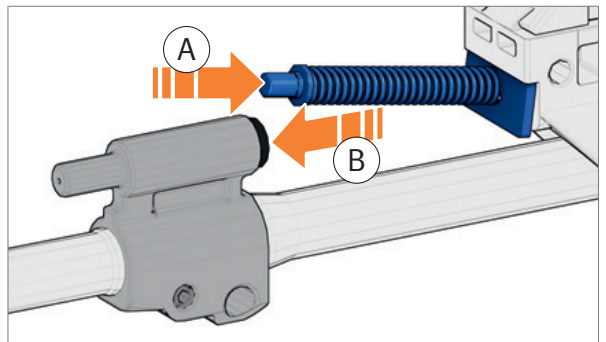

Fig. 130: Insert rod
2. Insert rod into receiver in assembly position (Fig. 130).
3. Press rod to the rear against spring force and insert into gas piston (Fig. 130).